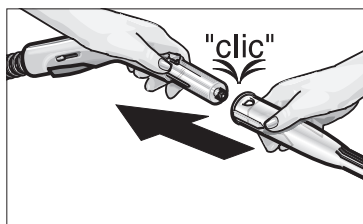

Fig. 1: Attaching accessories to the steam gun (C1)
- Attached the required accessory to the steam gun (C1) by pushing the tubular end of the accessory onto the steam gun (C1). Push the accessory onto the steam gun as far as necessary for the release button (C2) on the steam gun to lock into place (see Fig. 1).